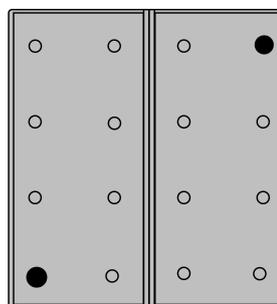

Figure 5: Activating programming mode for scene buttons
- Press the top right and bottom left buttons simultaneously for 4 seconds (Figure 5). The red LED flashes slowly. The function sensor is in programming mode.
- Briefly press the top right and bottom left buttons simultaneously (Figure 5).